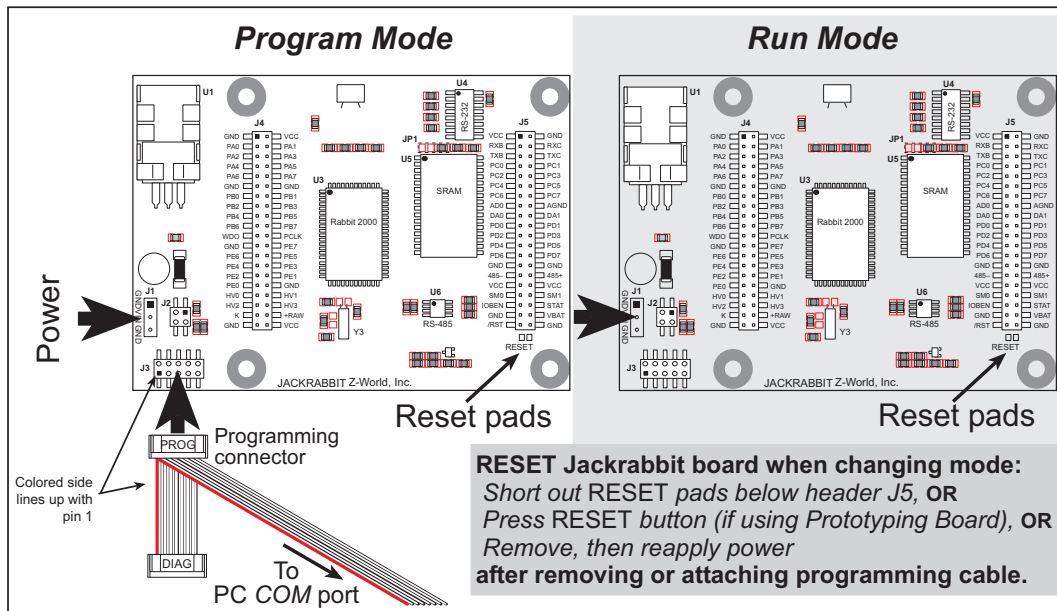
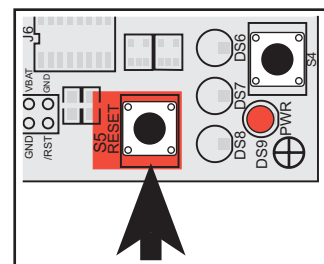

Figure 5. Jackrabbit Program Mode and Run Mode Setup
Figure 6. Location of Prototyping Board Reset Button
The Jackrabbit is automatically in Program Mode when the programming cable is attached, and is automatically in Run Mode when no programming cable is attached. See Figure 5.
2. Reset the Jackrabbit board. You may do this as explained in Figure 5. Figure 6 shows the location of the RESET button on the Prototyping Board.